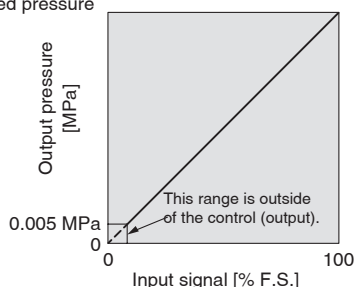

Fig. 1 Input/output characteristics chart
*2 Refer to Fig. 1 for the relationship between set pressure and input.